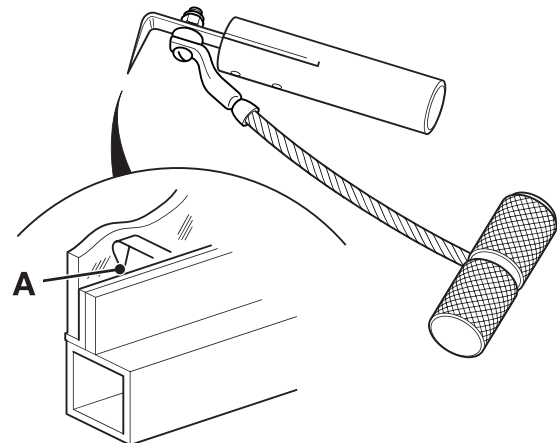

Fig 7. Cut-out Knife
- c Cut-out Knife. ⇒ Fig 7. \(□ 1-8\). The cut-out knife can be used as a left handed or right handed tool.